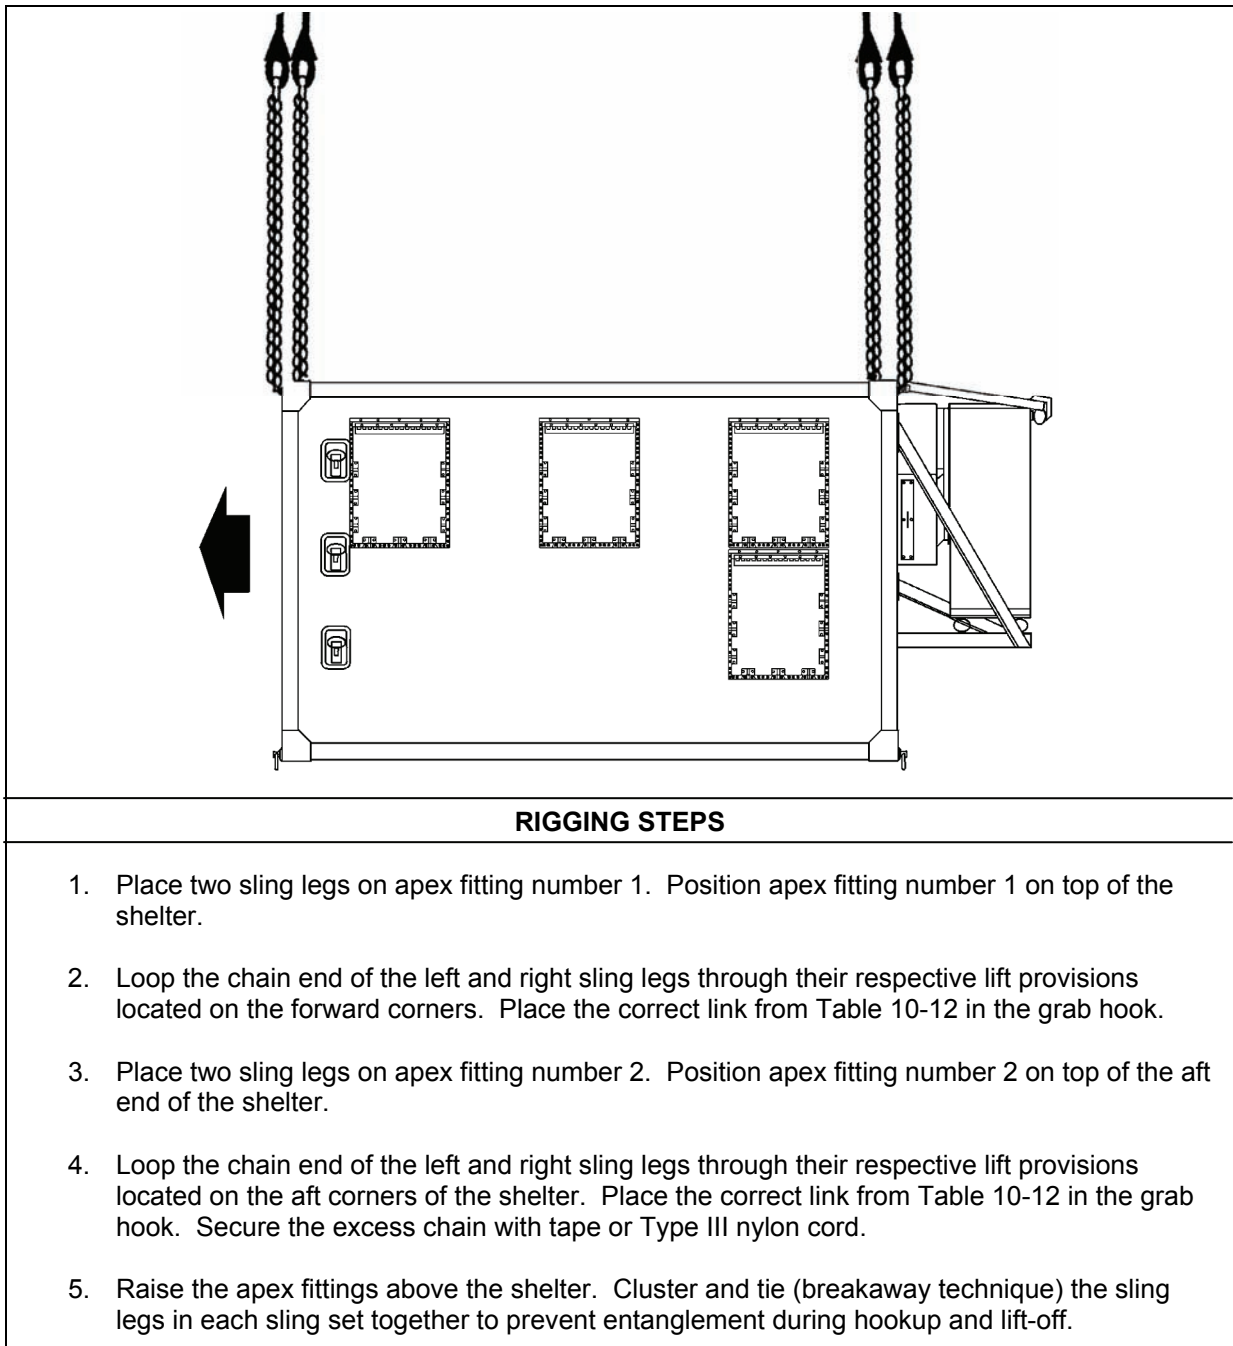

Figure 10-12. Digital Tech Controller Housed in a Modified Gitchner Shelter
- **Rigging.** Rig the load according to the steps in Figure 10-12.